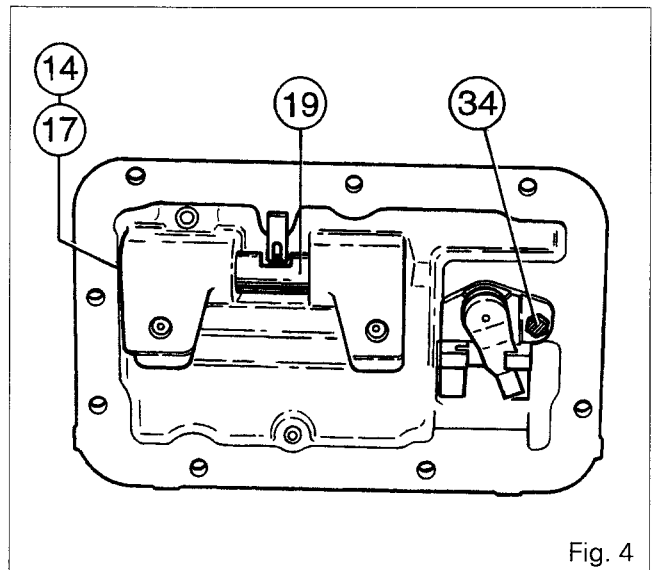

Fig. 4
23. Remove the bolt (34) (Fig. 4). Remove the gearshift control assembly.
24. Remove the cups (38) and (40), and the spring (39).
25. Separate the finger (36) from the rack (35). Remove the cup (41) and the spring (42).
26. Extract the seal (37).
27. Remove the circlip (14) and the plug (17). Take out the piston (19) (Fig. 4).
8. Drive out the pin (1) from the coupling sleeve (2) (Fig. 4).